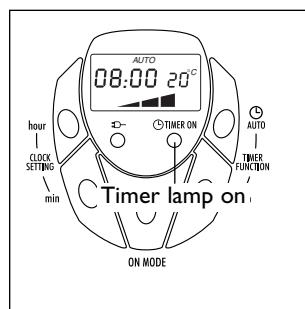

fig. 6
- 1 Press the "⌚ AUTO" button, this accesses the 1st programme (programme A). The yellow timer ON lamp will light up (fig. 6).